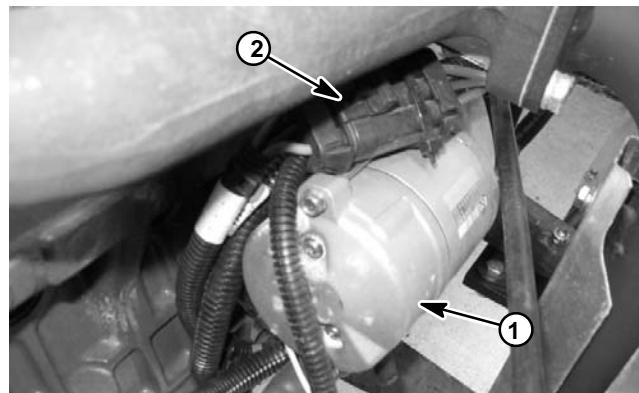

Figure 41
The Multi Pro 5700-D uses three (3) fusible links for circuit protection. These fusible links are located in a harness that connects the starter B+ terminal to the main wire harness (Fig. 41). If any of these links should fail, current to the protected circuit will cease. Refer to wire harness drawings in Chapter 8 – Electrical Diagrams for additional fusible link information.